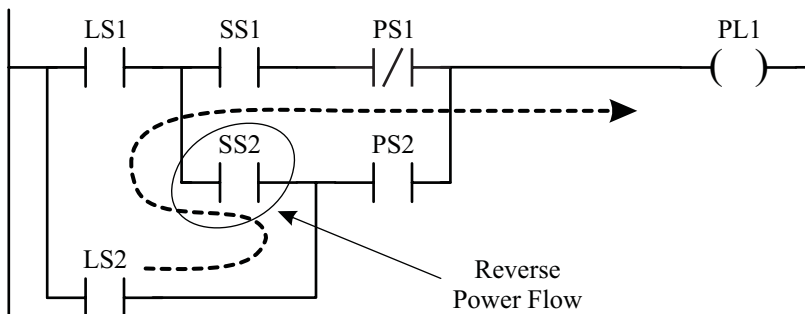
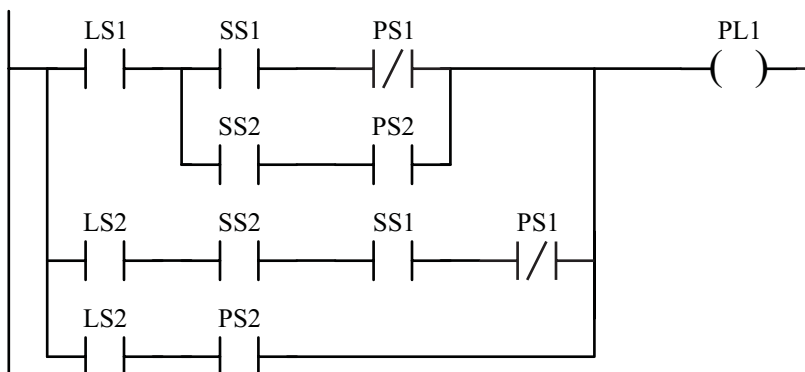

Figure 2.16. Reverse power flow in ladder logic.
Figure 2.17. Reverse power flow in ladder logic corrected.
4. Reverse power flow in the contact matrix is **not** allowed. When electromechanical relays implement ladder logic, power can flow either way through the contacts. For example, consider the ladder logic in Figure 2.16. If implemented with electromechanical relays, power may flow right-to-left through the SS2 contact. When solid state relays replaced electromechanical relays for ladder logic, power can flow only one way (left-to-right) through the contacts. This restriction was carried to PLC ladder logic. If the reverse power flow path is truly needed, then insert it as a separate path, where the power flows from left to right. The reverse power flow path in Figure 2.16 is added as a separate path in Figure 2.17.